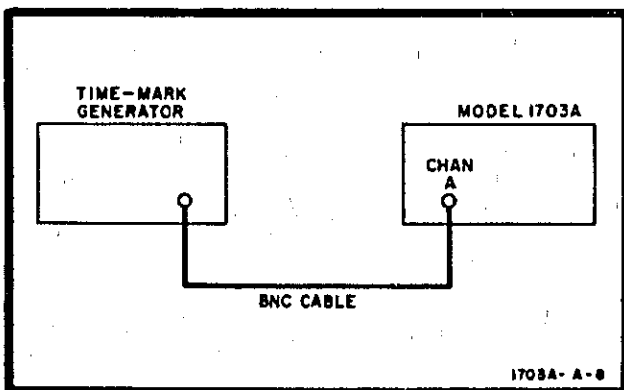

Figure 5-10. Delayed Sweep Time Test Setup
- (1). Sweep ranges: paragraph 5-181; schematics 11 and 12.
- (2). Vernier check: paragraph 5-181; schematics 11 and 12.
- (3). SWP MAG (X10) check: paragraph 5-191; schematic 16.
- a. Connect instruments as shown in figure 5-10.